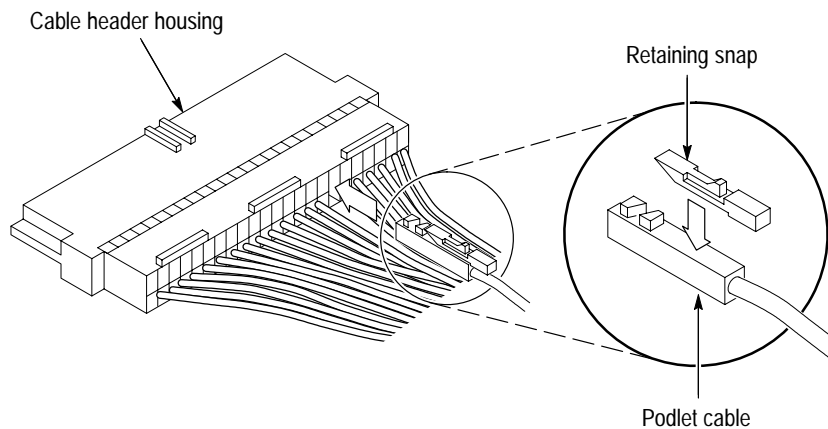

Figure 15: Installing the cable in the cable header housing
20. Insert the new podlet cable partially into the cable header housing. Place a new retaining snap (included with the kit) on the podlet cable as shown in Figure 15 and fully insert the cable and retaining snap into the cable header housing. Tug lightly on the podlet cable to ensure the retaining snap is in place.